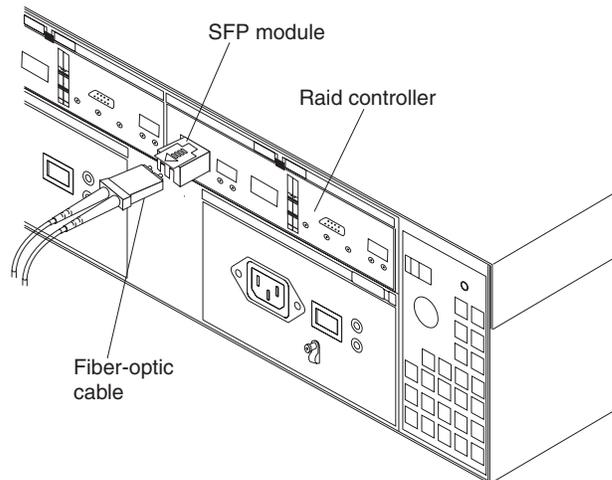

Figure 98. Location of SFPs and fiber-optic cables
3. From the RAID controller that has failed, remove the fibre-channel cables from the SFPs. The location of these components is shown in Figure 98.